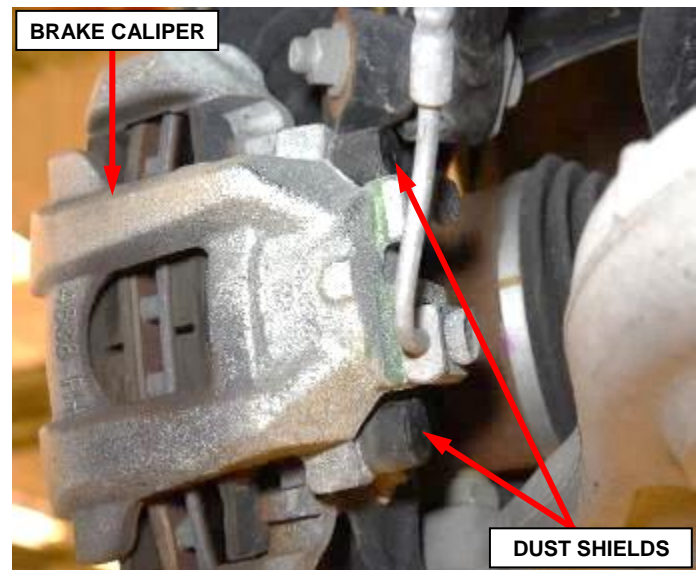

Figure 12 – Brake Caliper Dust Shields
19. Remove the slide bolt (guide pin) dust shields from the r right side rear brake caliper (Figure 12).
28. Install the rear brake caliper slide bolt (guide pin) dust shields (Figure 12).